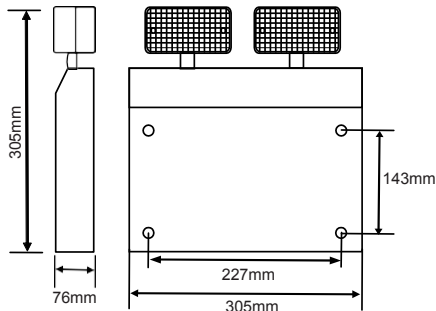

Fig 1. Dimensions
3. Using the back of the product as a template, mark the position of the fixing holes on your mounting surface (see fig 1).